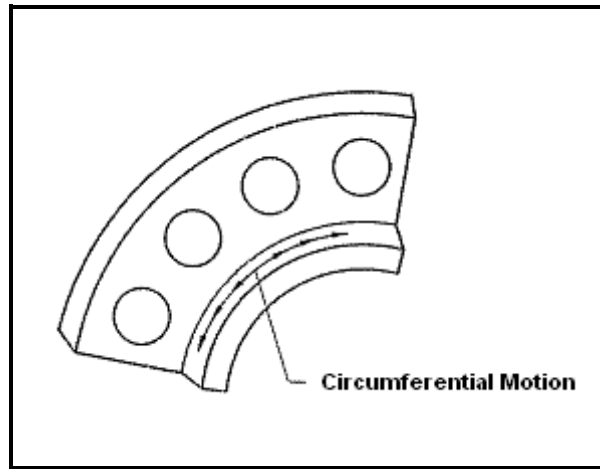

FIGURE 1-5
- When buffing, it is important to use a circumferential motion. The buffing action to be directed along the circumference of the seal surface area (as shown by arrows in Figure 1-5 below).